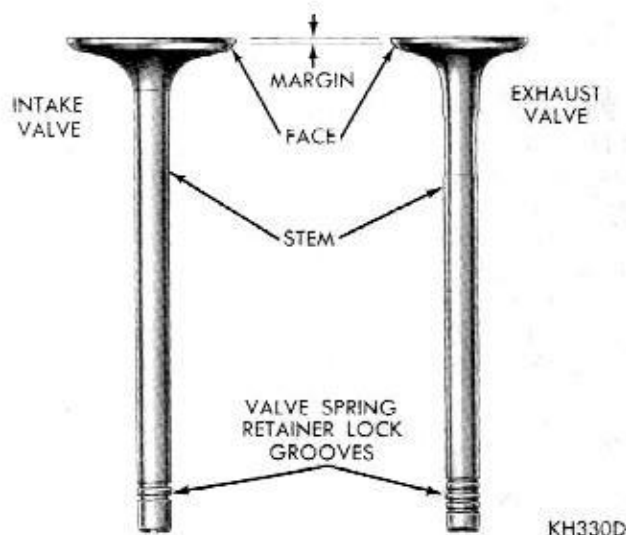

Fig. 13—Intake and Exhaust Valves
(2) Inspect the remaining margin after the valves are refaced (Fig. 13). Valves with less than $3/64$ inch margin should be replaced.
(3) When refacing valve seats, it is important that the correct size valve guide pilot be used for reseating stones. A true and complete surface must be obtained.
(4) Measure the concentricity of the valve seat using dial indicator No. 13725. Total runout should not exceed .002 inch (total indicator reading).
(5) Inspect valve seat with Prussian blue to determine where valve contacts the seat. To do this, coat valve seat **lightly** with Prussian Blue then set the valve in place. Rotate the valve with light pressure. If the blue is transferred to the center of the valve face, contact is satisfactory. If the blue is transferred to the top edge of valve face, lower the valve seat with a 30° stone. If the blue is transferred to the bottom edge of valve face raise the valve seat with a 60° stone.
(6) When the seat is properly positioned the width of intake seats should be $1/16$ to $3/32$ inch. The width of exhaust seats should be $3/64$ to $1/16$ inch.